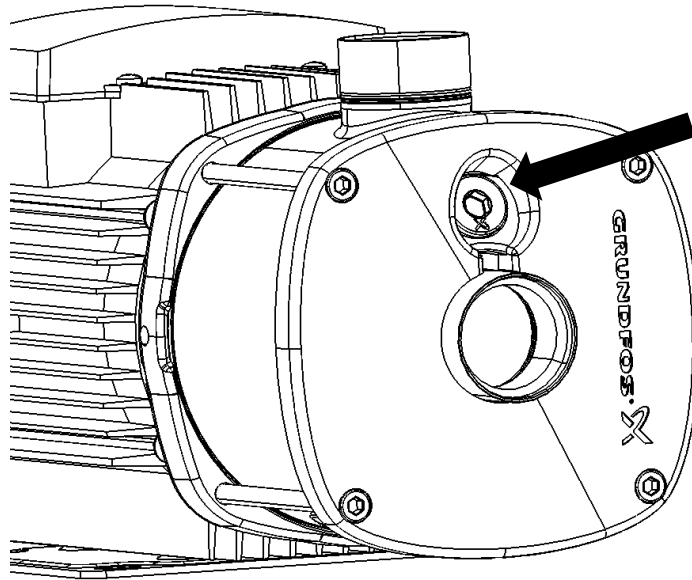

Figure 14: Pump Bleed Port Location
7. This will ensure the pump is fully primed before turning on. (See Figure 14)